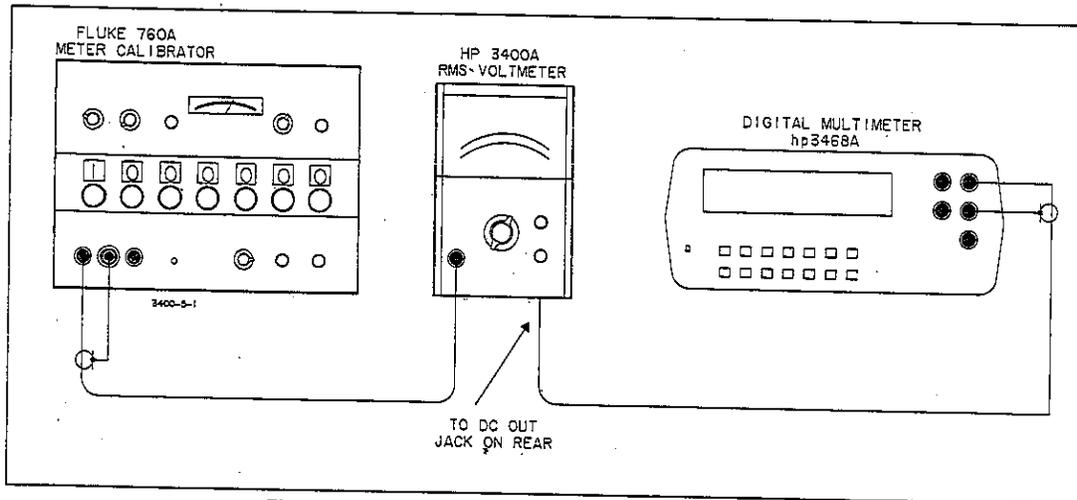

Figure 5-1. Accuracy, Linearity, and DC Output Test Setup
5-8. The accuracy, linearity, and dc output test set-up is illustrated in Figure 5-1. A Meter Calibrator Fluke Model 760A and a Digital Multimeter -hp- Model 3468A are required for this test.
- a. Connect test setup illustrated in Figure 5-1.
a. Connect test setup illustrated in Figure 5-1.
a. Connect test setup illustrated in Figure 5-1; omit the DC Voltmeter.